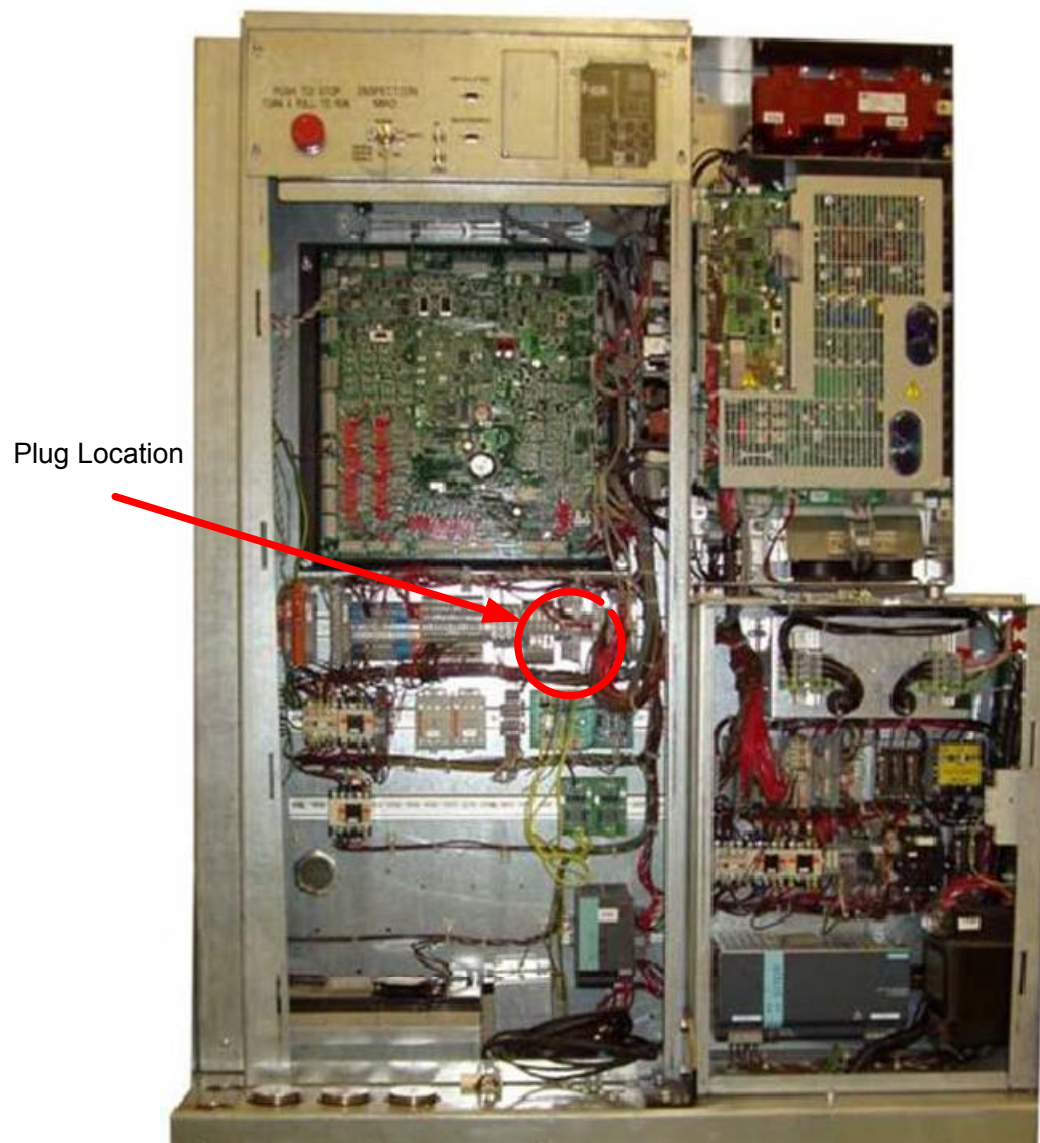

Figure 2: Plug Assembly Location
7. Locate and remove PX jumper from the J1 plug in the controller and connect it to the J4 plug (see Figures 2 and 3).